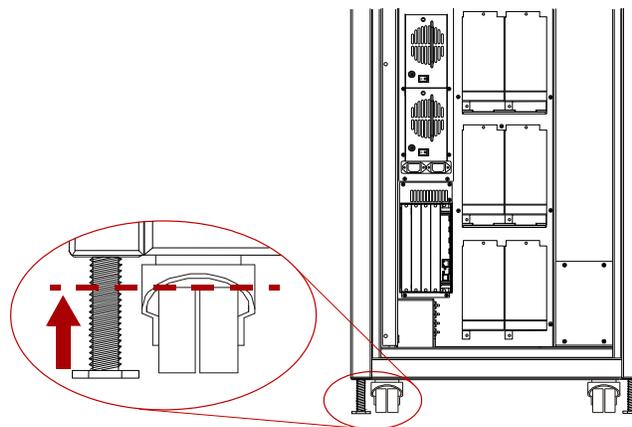

Figure 2-6: NEO 8000e Casters and Leveling Legs
- c. Use a 10" adjustable wrench to raise the two **leveling legs** at least to the top of the wheels (Figure 2-6).
- d. Use the 10" adjustable wrench to loosen and raise the two **leveling legs** at least to the top of the wheels (Figure 2-6 on page 2-4).